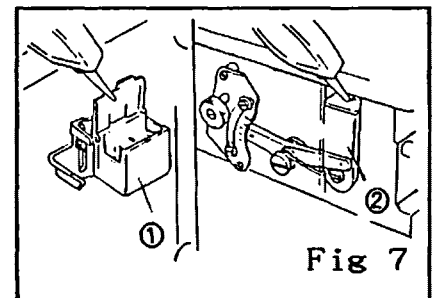

Fig 7
Fill reservoir (1) and (2) with silicone oil to prevent the thread from breaking. (Fig 7)